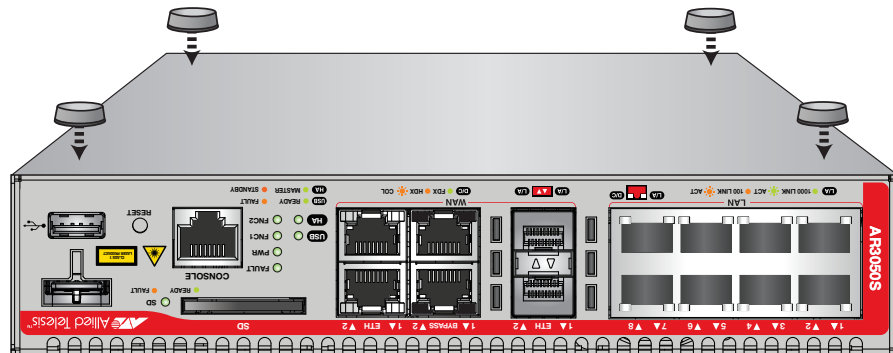

Figure 4. Attaching the rubber feet
3. Remove the adhesive rubber feet from the packaging and press them firmly onto the base of the router, as shown in Figure 4.